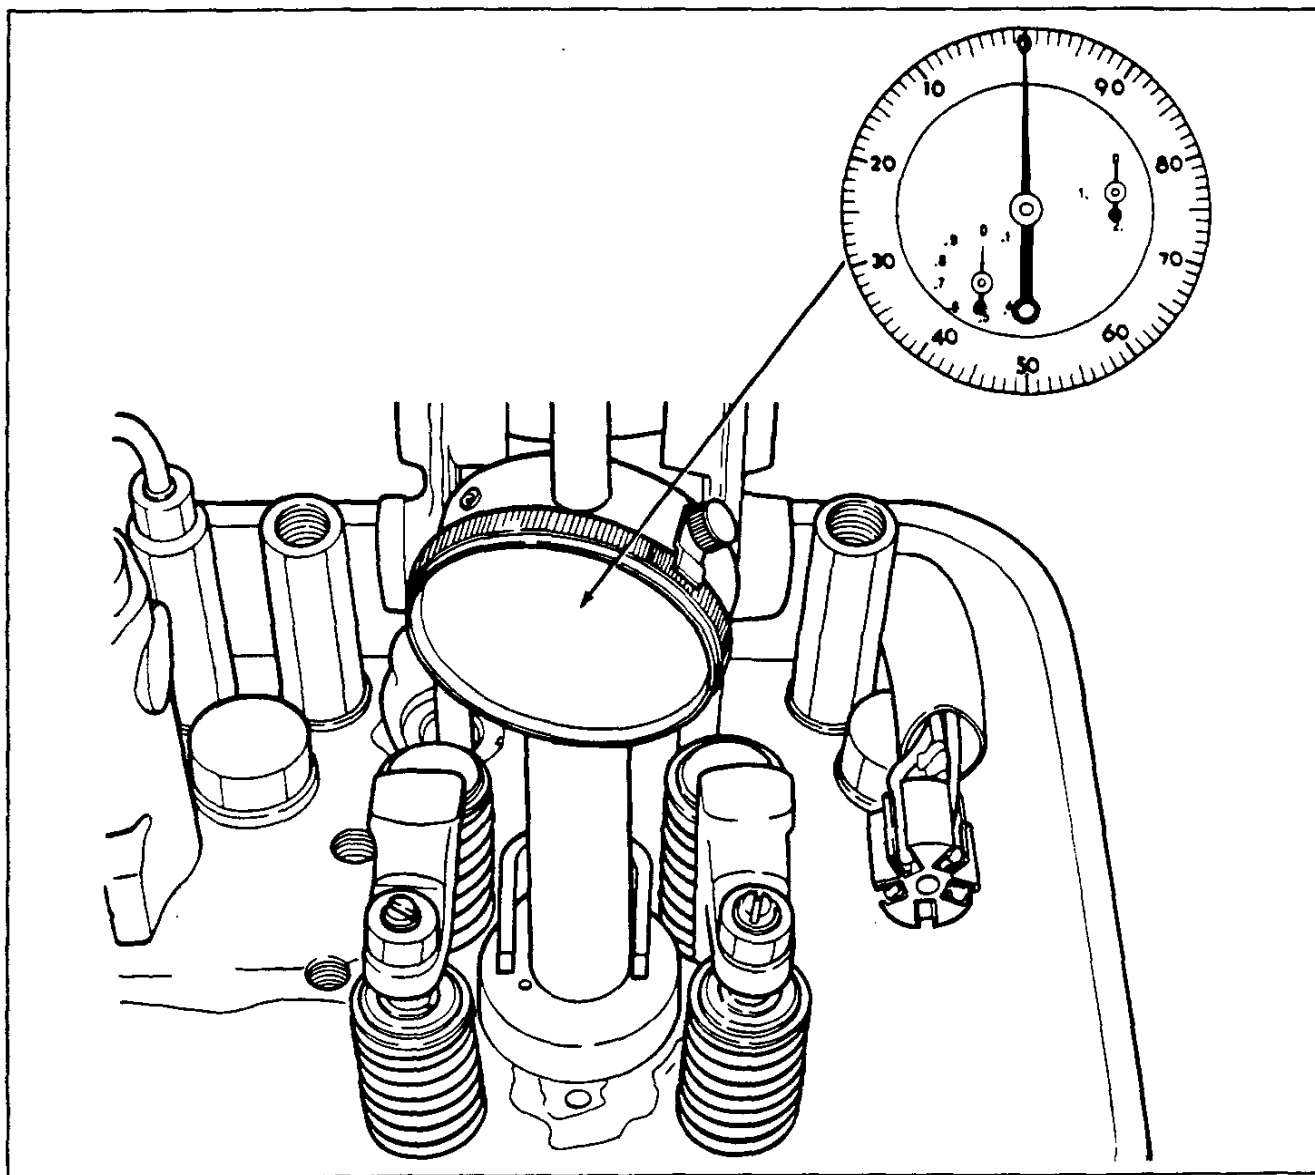

Figure 12
- e. Before piston downward travel can be measured, the dial indicator must be "zeroed." Loosen the clamp screw and remove the slotted spacer. Lower the dial indicator until the two smaller indicator hands are at "0" and the large hand is near "0" as shown in Figure 12.